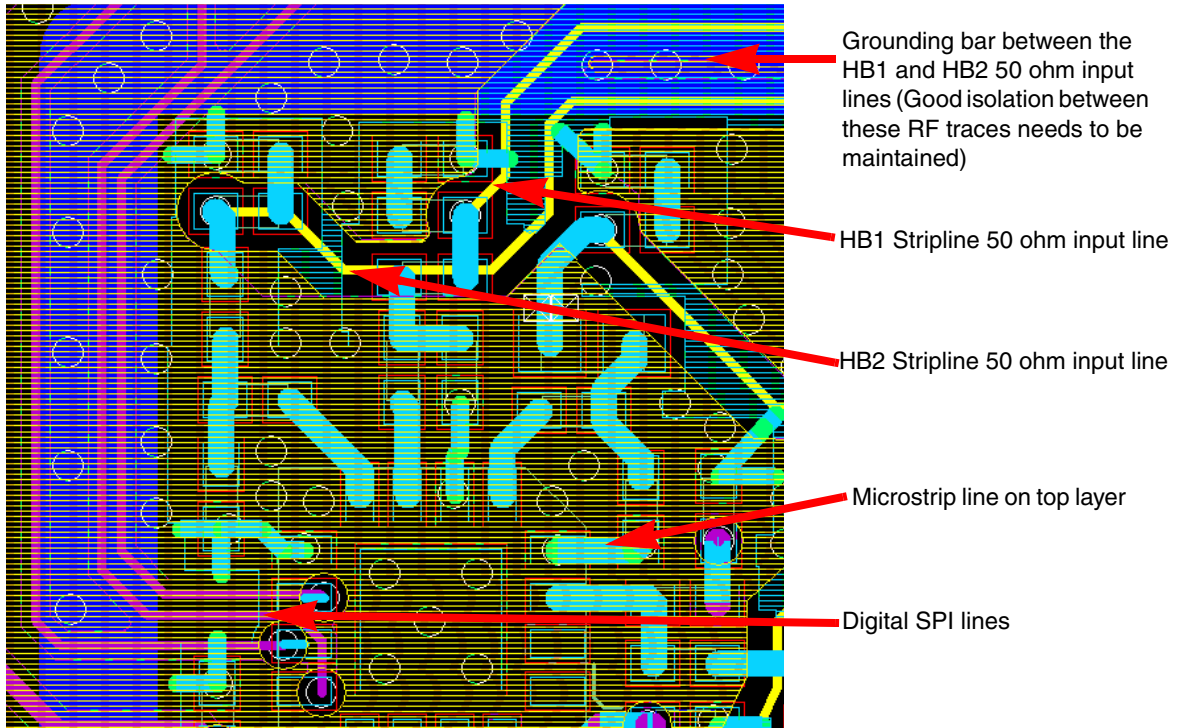
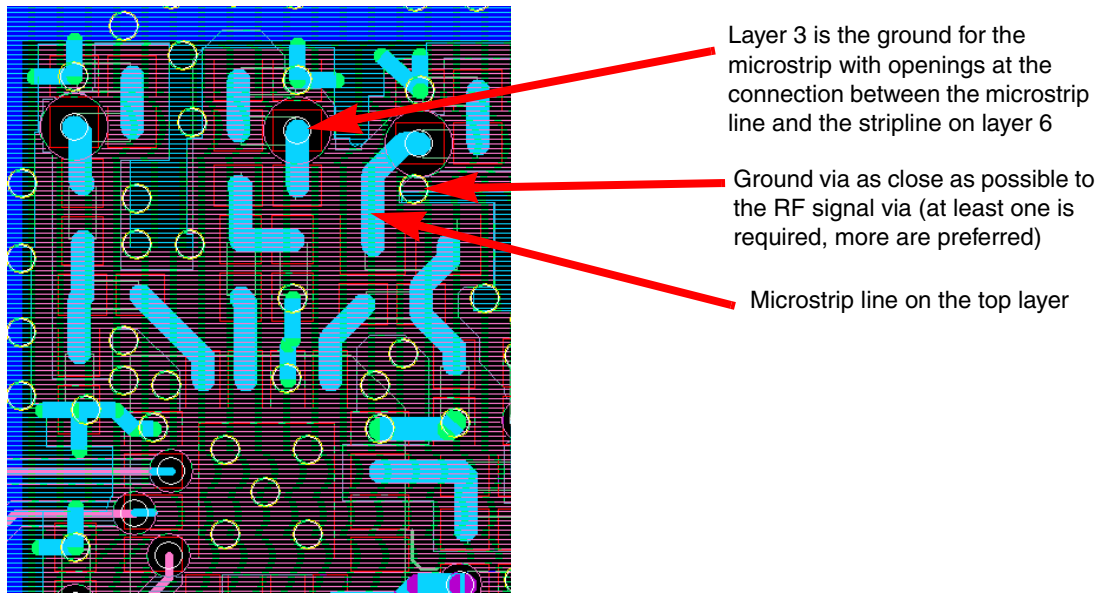

Figure 14. HB1 and HB2 LNA Stripline Input Lines
Figure 15. Microstrip Lines Used to Connect the RF Matching Components
- Refer to Figure 14 for a routing example of HB1 and HB2 input stripline lines. Note the stripline RF lines are clear of other signal lines and vias. Layer 5 serves as the ground over the stripline and layer 8 serves as the ground below the stripline. These ground reference layers should be at equal electromagnetic potential. Tie the two ground references together, in particular along the RF trace, with adequate vias. Note the grounding wall with vias in between the RF traces to isolate RF paths. In Figure 15 the microstrip lines on the top layer used to connect the RF matching components are shown. The striplines shown in Figure 14 are on layer 6.